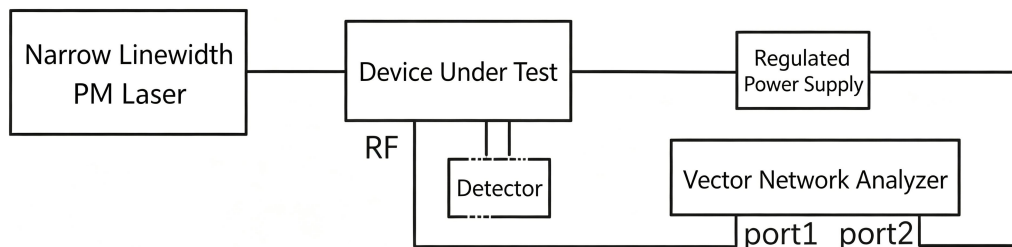

Figure 4 Block diagram of the test setup for bandwidth (S21)
- Connect the system as shown in Figure 4.